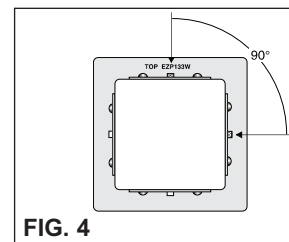

FIG. 4
1. Pre-install required set screws in wall plates using Allen wrench (provided). NOTE: Two set screws positioned and tightened at 90 degrees to each other in both plates will adequately hold device (See Fig. 4).